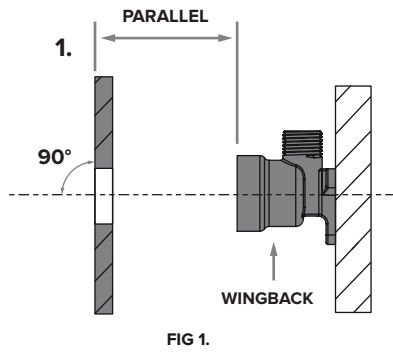

FIG 1.
1. Ensure the wingback when fitted is parallel and square to the finished wall lining as shown (fig 1).